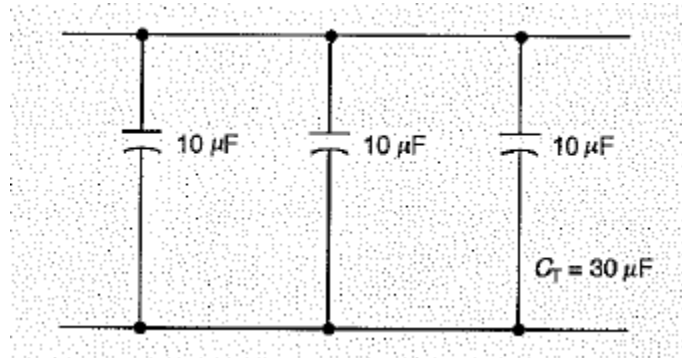

Figure 4.5: Capacitors in Parallel
- 4-49 Figure 4.5 is a diagram of a circuit having three  $10\ \mu\text{F}$  capacitors connected in parallel. Their combined capacitance is  $30\ \mu\text{F}$ .